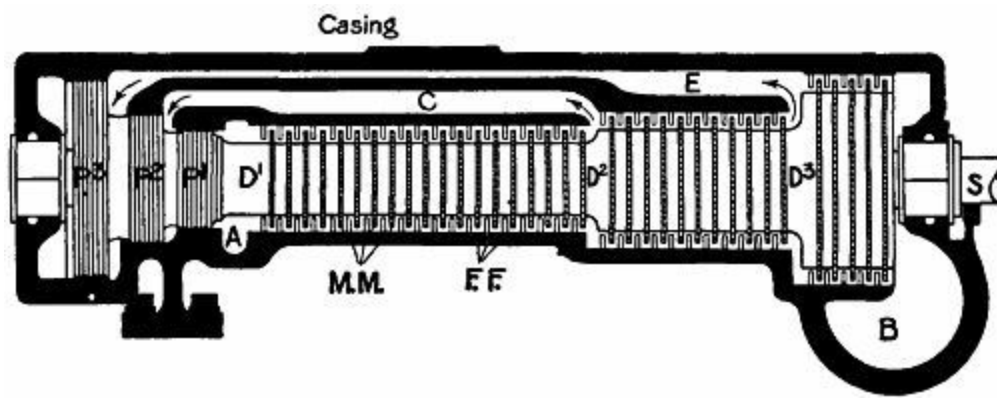

FIG. 37.—Section of a Parsons turbine.
The essential parts of a Parsons turbine are:—(1) The shaft, on which is mounted (2) the drum; (3) the cylindrical casing inside which the drum revolves; (4) the vanes on the drum and casing; (5) the balance pistons. Fig. 37 shows a diagrammatic turbine in section. The drum, it will be noticed, increases its diameter in three stages, D^1 , D^2 , D^3 , towards the right. From end to end it is studded with little vanes, $M M$, set in parallel rings small distances apart. Each vane has a curved section (see Fig. 38), the hollow side facing towards the left. The vanes stick out from the drum like short spokes, and their outer ends almost touch the casing. To the latter are attached equally-spaced rings of fixed vanes, $F F$, pointing inwards towards the drum, and occupying the intervals between the rings of moving vanes. Their concave sides also face towards the left, but, as seen in Fig. 38, their line of curve lies the reverse way to that of $M M$. Steam enters the casing at A , and at once rushes through the vanes towards the outlet at B . It meets the